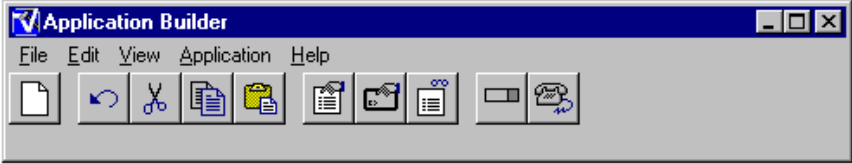

Figure 1-5 Application Builder Menu Titles and Toolbar
- 5. The Application Builder menu titles and toolbar appear (Figure 1-5). The menu commands and toolbar buttons are described in detail in Chapter 2.